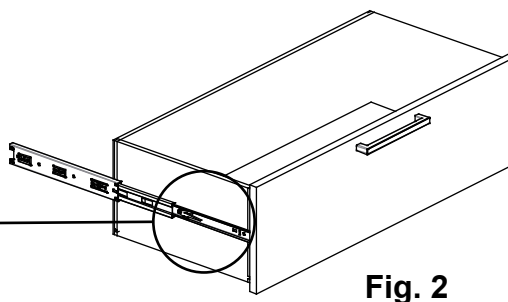

Fig. 2
2. If you need to remove the drawers, pull up on the left Drawer Release Lever while pushing down on the right Drawer Release Lever and pull out the drawer. See Figures 2 and 2a. Note where each drawer came from to make sure you place them back into their correct positions.